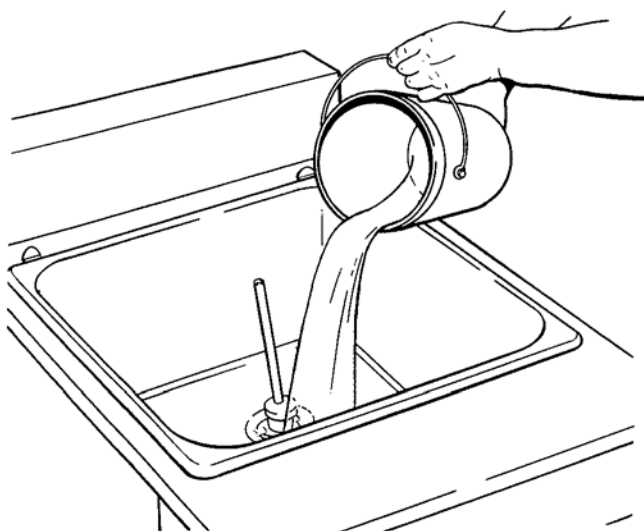

Figure 14. Pouring the Mix
- With spigot open, pour approximately 1 gallon (3.8 liters) of mix into the hopper. Allow the mix to flush out about 8 ounces (0.23 liters) of sanitizing solution and liquid mix. Close the spigot (Fig. 14).